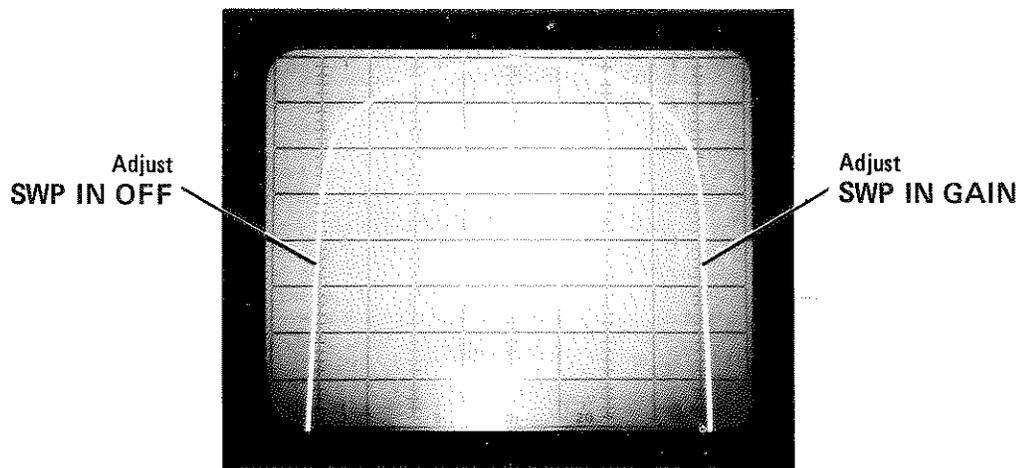

Figure 3-7. Adjustment of SWP IN OFF and SWP IN GAIN Using a Bandpass Filter
- u. If the sweep oscillator does not have z-axis intensity marker capability, the system can still be calibrated by using the response of a frequency sensitive test device, such as a bandpass filter or wavemeter, as a frequency indicator. For instance, as described below in steps v and w, the skirts of a bandpass filter can be used in place of markers by adjusting the sweep width in BYPASS mode so the filter skirts cross the center horizontal graticule line one graticule line to the right of the far left graticule line and one graticule line to the left of the far right graticule line. See Figure 3-7.
- v. On the 8750A, press INPUT. Then on the Network Analyzer Interface Board (plugged into 8750A rear panel), adjust SWP IN OFF (Sweep Input Offset) to place the filter skirt on the first graticule line to the right of the far left graticule line as shown in Figure 3-7.
- w. At the Network Analyzer Interface Board, adjust SWP IN GAIN (Sweep Input Gain) to place the other filter skirt on the first graticule line to the left of the far right graticule line as shown in Figure 3-7. You may have to readjust the Interface Board SWP IN OFF to keep the left filter skirt on its assigned graticule line. The purpose of these adjustments is to make the horizontal position of the bandpass filter the same in the INPUT mode as it was in the BYPASS mode. Proceed to step x.